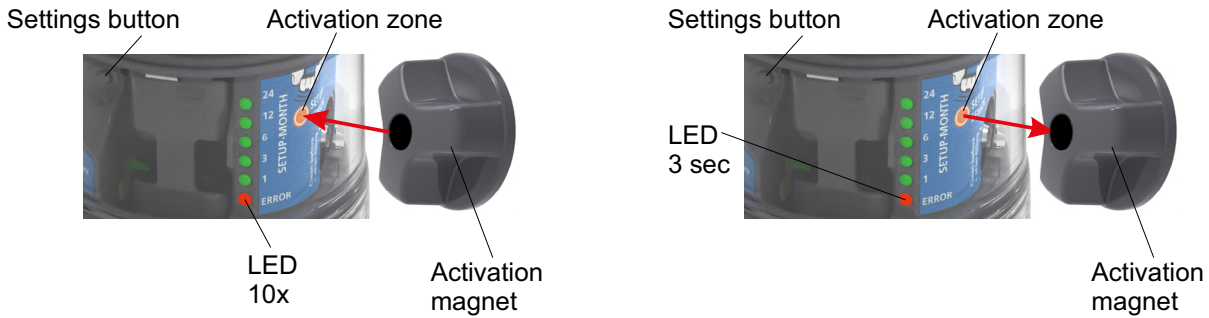

Fig. 18.
- Place the Activation magnet on the activation zone „Fig. 18.“ and hold it there until the red and the orange LED have flashed alternately 10x. As an alternative you can also keep the settings button pressed.